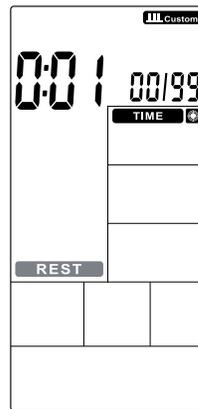

Figure 34
3. The **REST** icon will flash. Use the “UP” and “DOWN” buttons to set the rest time (range: 0:01–9:59). Press “ENTER” to confirm. The buzzer will sound for 1 second, and the **INTERVAL CUSTOM** icon will remain lit (see Figure 34).